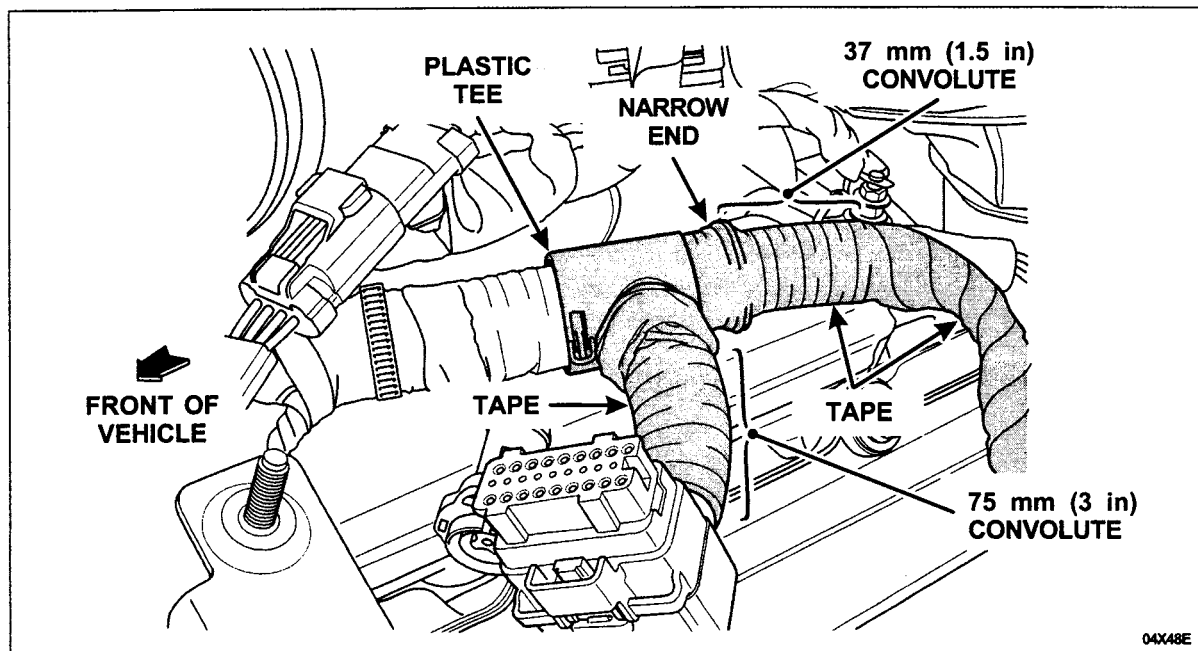

FIGURE 6
2. Position and install the plastic TEE over the forward harness take-out with the narrowed end toward the rear of the vehicle. Do not latch the TEE closed at this time. See Figure 6.
3. Cut two (2) pieces of 11/16" convolute: one approximately 75 mm (3 inches) long, the other about 37 mm (1.5 inches) long. See Figure 6.
4. Position the 75 mm (3 inches) section of convolute over the harness takeout from the plastic TEE to the FICM connector. See Figure 6.
5. Position the 37 mm (1.5 inches) section of convolute between the two (2) harness take-outs. See Figure 6.
6. Close the TEE around the harness and over the convolute, making sure that all 4 latches are engaged. See Figure 6.
7. Using the supplied tape, secure the plastic TEE, both sections of convolute and the connector covers. See Figure 6.